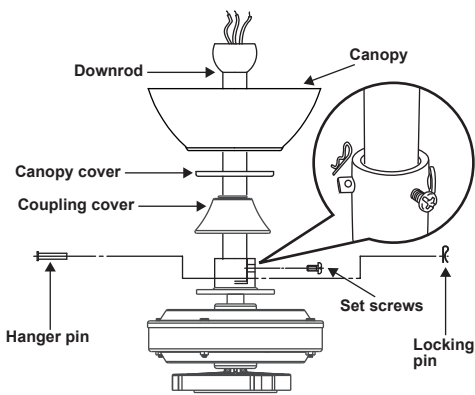

Figure 6
Step 4. Route wires exiting from the top of the fan motor through the coupling cover, canopy cover and canopy, then through the ball/ downrod. (Fig. 6)
Step 5. Align the holes at the bottom of the downrod with the holes in the collar on top of the motor housing (Fig. 6). Carefully insert the hanger pin through the holes in the collar and downrod. Be careful not to jam the pin against the wiring inside the downrod. Insert the locking pin through the hole near the end of the hanger pin until it snaps into its locked position, as noted in the circle inset of Fig. 6.
Step 6. Tighten two set screws against the downrod on top of the fan motor firmly. (Fig. 6)